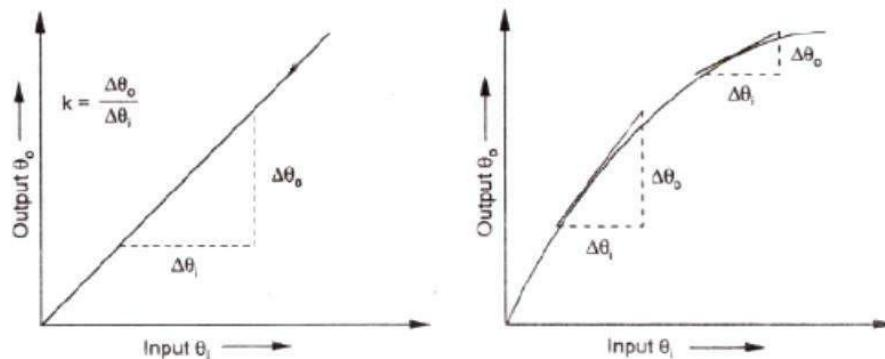

Figure 1.11 Static sensitivity for linear and non-linear instruments
- If the calibration curve is non-linear the static sensitivity is not constant and must be specified in terms of the input value as illustrated in Fig.1.11